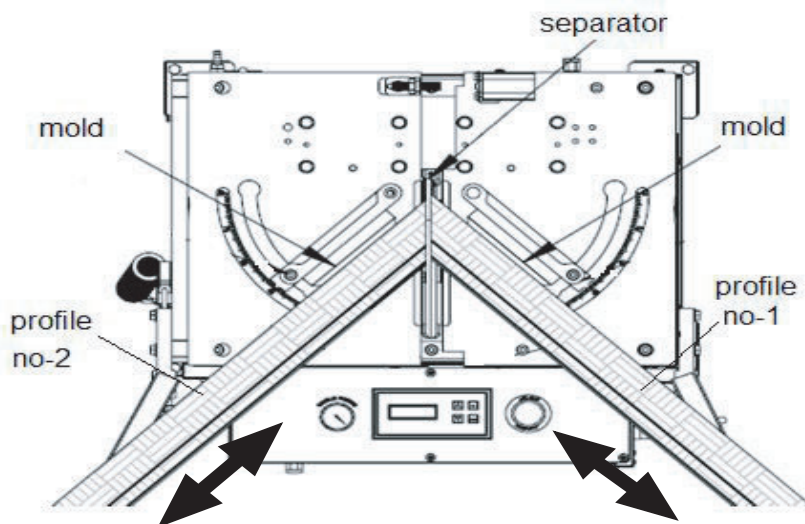

Figure 3.
- 7.3.3. Place the tray on the bottom surface of the stationary profile No. 1. (Figure 3) of the frame side surface of the mold side surface made of profile cutting angle and carefully place the side surface of the surface of the gauge.